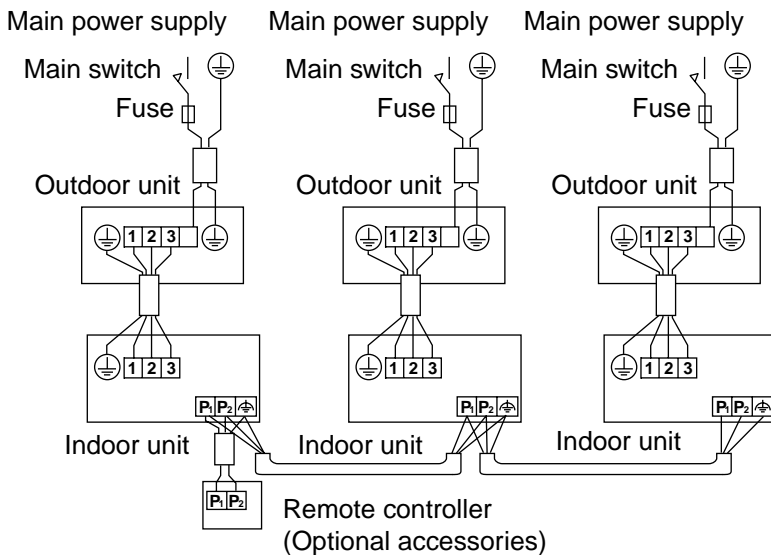

Fig. 27
- **Group control:** 1 remote controller controls up to 16 indoor units. (All indoor units operate according to the remote controller) (Refer to Fig. 27)
(Refer to Fig. 27 on page 14 and Table 4 on page 15)